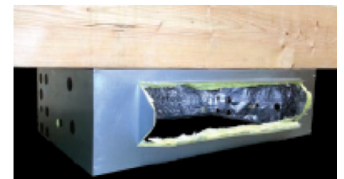

FIGURE 6.5
6.1.6. Ensure the unit is level to allow for proper condensate drainage. (Fig 6.5).